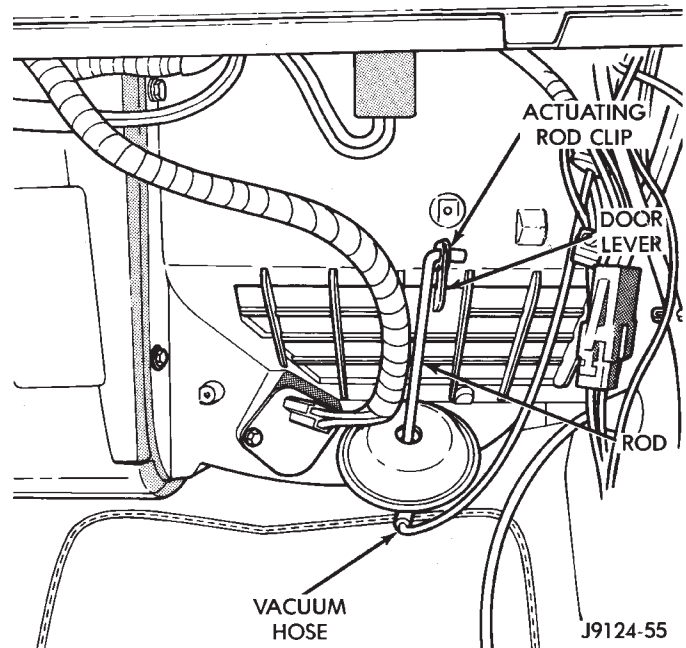

Fig. 20 Vacuum Door Motor
- (2) Disconnect the vacuum hose (Fig. 20).